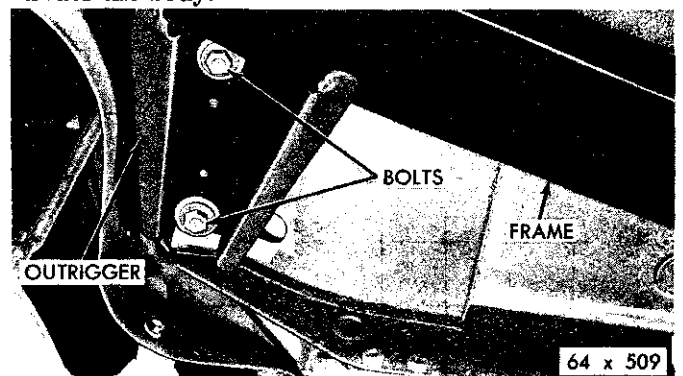

Fig. 10—Body to Frame Outrigger Mounting
(19) Disconnect all electrical wires from the engine. Disconnect the power steering hoses (if so equipped), brake lines at the master cylinder, carburetor, throttle linkage and the heater hoses.
(20) Place a hydraulic jack under the stub frame rear crossmember to hold it in position when the body to the frame mounting bolts (Fig. 10 and 11) are removed.